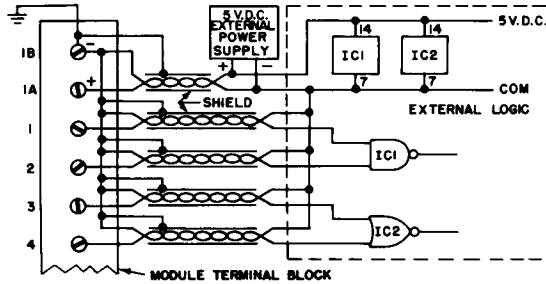

Figure 1 — Typical Wiring
Output devices are wired to the removable terminal block on the front of the module. Figure 1 illustrates the typical wiring for the first four outputs of the HOM-261 TTL Output Module. Wiring terminals 1 through 4 share a common "1A" and "1B" terminal. Wiring terminals 5 through 8 share common terminals "2A" and "2B". Each group of four outputs on the module is capable of being connected to a separate voltage supply. If only one voltage supply is used for more than
- The polarity of the wires connected to the terminals "A" (+) and "B" (-) must be as indicated or damage to the Module will occur (Figure 1).
- The output common terminal "1B" and "2B" on the module should be connected to the ground to minimize noise susceptibility. Each individual cable shield must also be connected to the common terminals "1B" and "2B" on the module. The other end of the shield must be left unconnected (Figure 1).